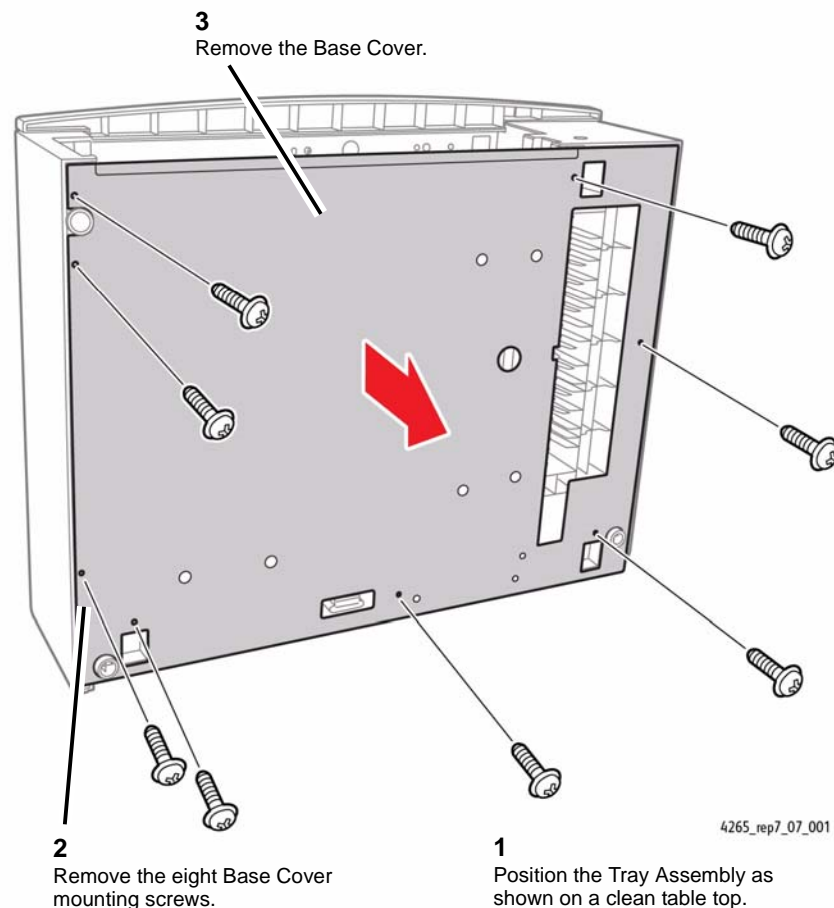

Figure 1 Removing the Base Cover from the Tray Assembly
9. Remove the Base Cover (Figure 1).